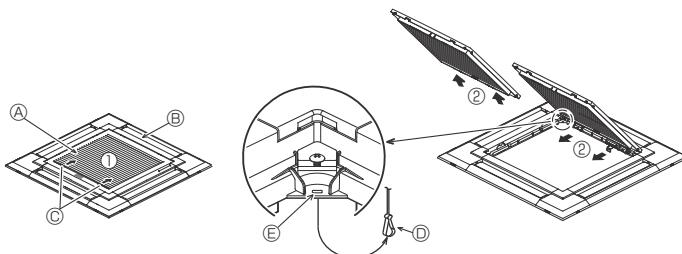
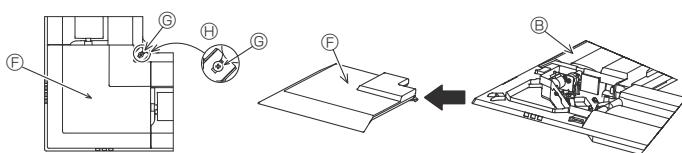

Fig. 6-3
Fig. 6-4
6.2.1. Removing the intake grille (Fig. 6-3)
- Slide the levers in the direction indicated by the arrow ① to open the intake grille.
- With the intake grille in the "open" position, remove the hinge of the intake grille from the grille as indicated by the arrow ②.
6.2.2. Removing the corner panel (Fig. 6-4)
- Loosen the screw from the corner of the corner panel. Slide the corner panel as indicated by the arrow ① to remove the corner panel.
[Fig. 6-3] [Fig. 6-4]